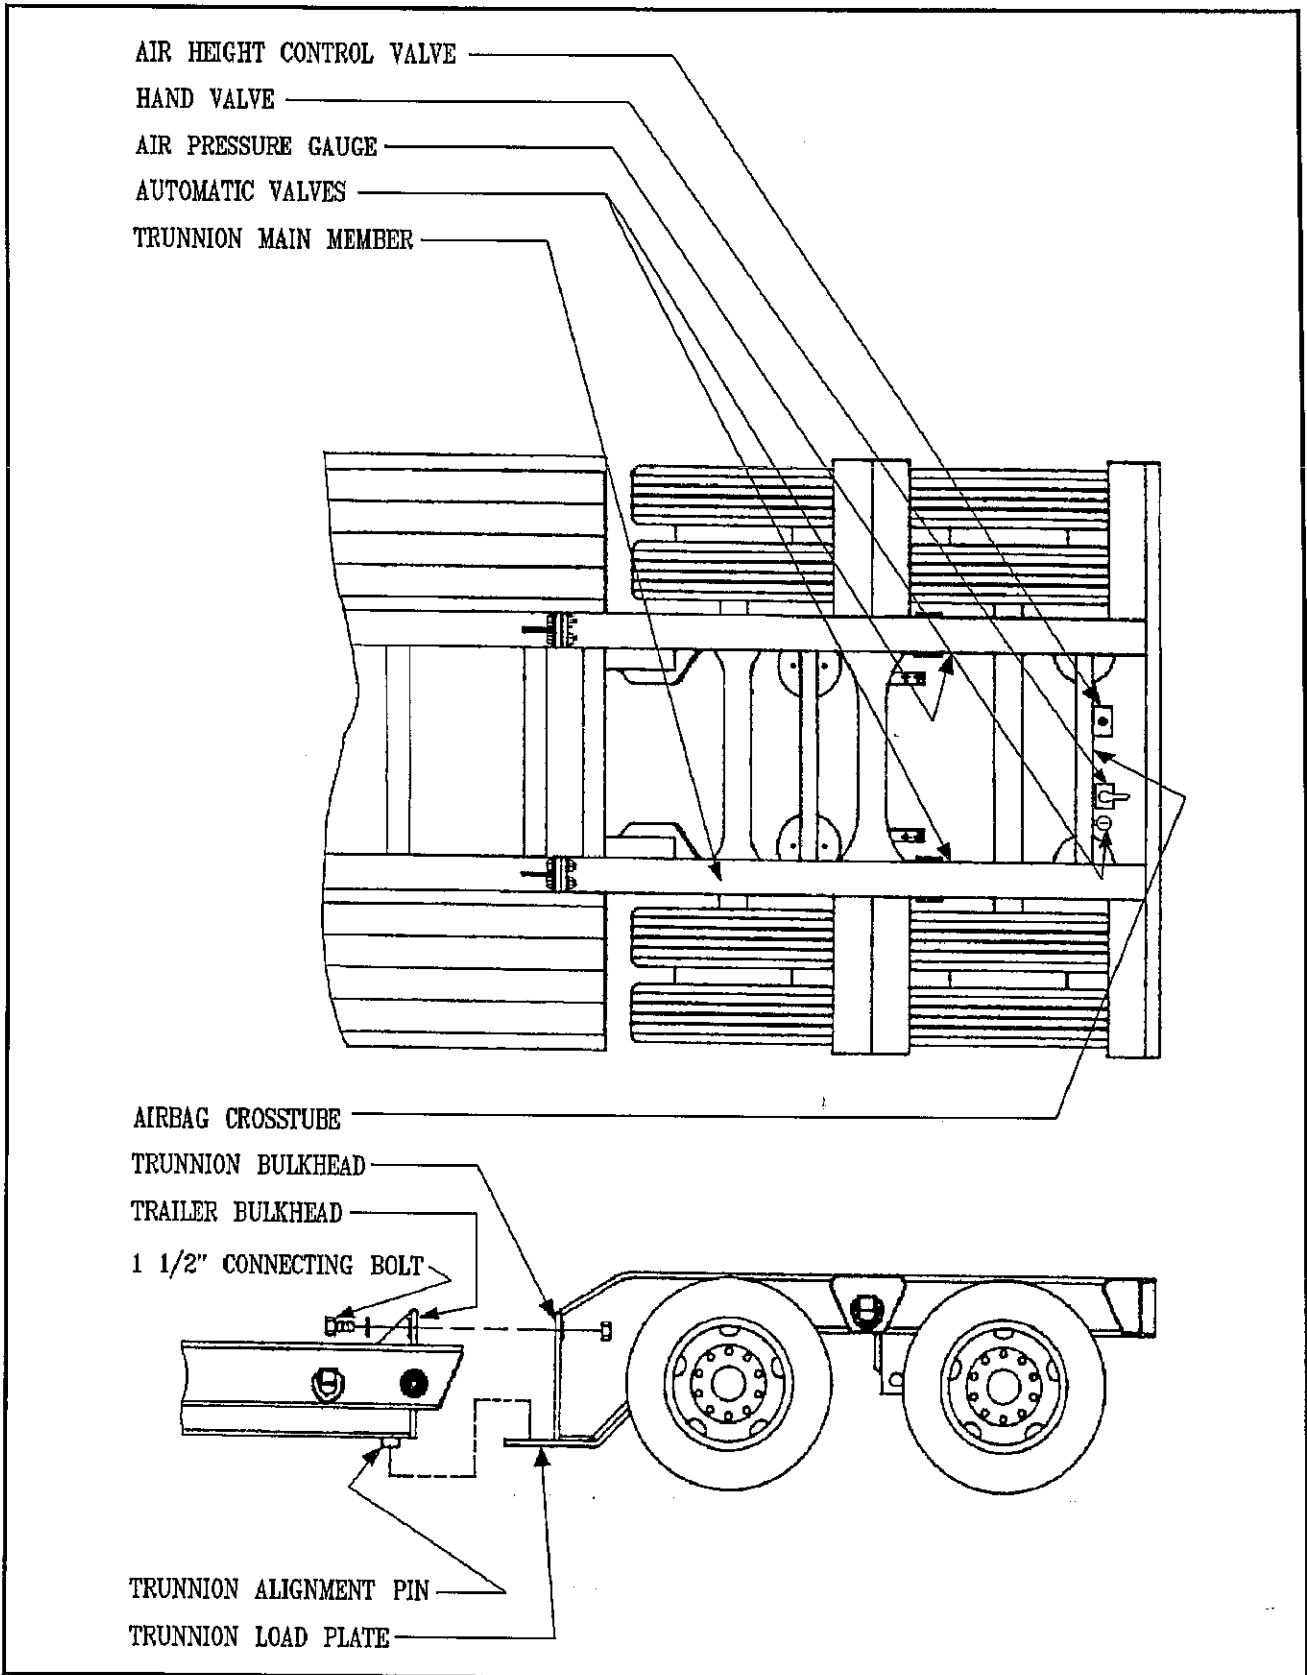

FIG. 5-2 DETACHABLE TRUNNION
- g. Remove the four connecting bolts from the semitrailer and trunnion bulkheads. (See FIG. 5-2) Use a crane, hoist, or other suitable lifting device to slightly lift the back of the semitrailer bed if necessary, to provide relief on the bolts, allowing them to be removed.
- b. Lower the semitrailer bed until the trunnion alignment pins are inserted into the trunnion load plates. (See FIG. 5-2)